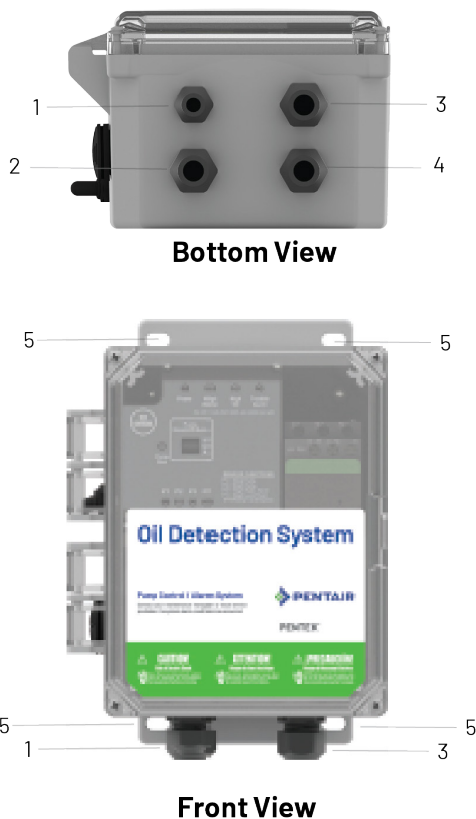

Figure 3
1. This model comes with four pre-installed cable grips (Fig. 3) and pre-wired: preset level sensor, pump power receptacle (female plug), and incoming system power cable (male plug).
9. Hold the control panel up to the desired mounting location and mark the drill hole locations (Fig. 3). Once marked, drill pilot holes for screws (not included) and use wall mount anchors (not included) if necessary. Recommended to use four mounting screws.